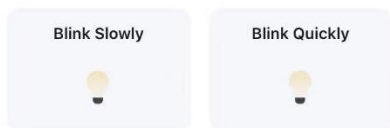

Fig.5
- 2) Tap “Confirm the indicator is blinking” in Fig.4. You will get Fig.5 that asks you to select the status of the indicator light. Tap “Blink Quickly”.
- 2) Tap “Confirm the indicator is blinking” in Fig.4. You will get Fig.5 that asks you to select the status of the indicator light. Tap “Blink Slowly”.